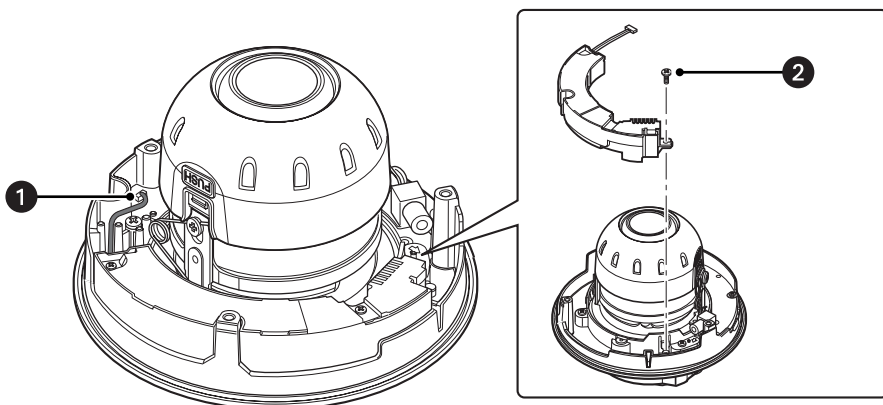

Figure 39. Removing the Heater
2. Remove the screw that secures the heater (refer to Figure 39).